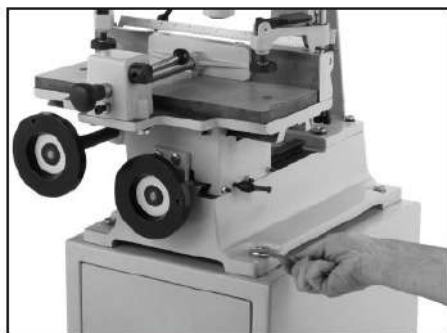

Fig 2
2. Have your assistant hold the mortiser in place while you secure the main body to the cabinet with the hex bolts, flat washers, lock washers, and hex nuts, as shown in Fig 2.